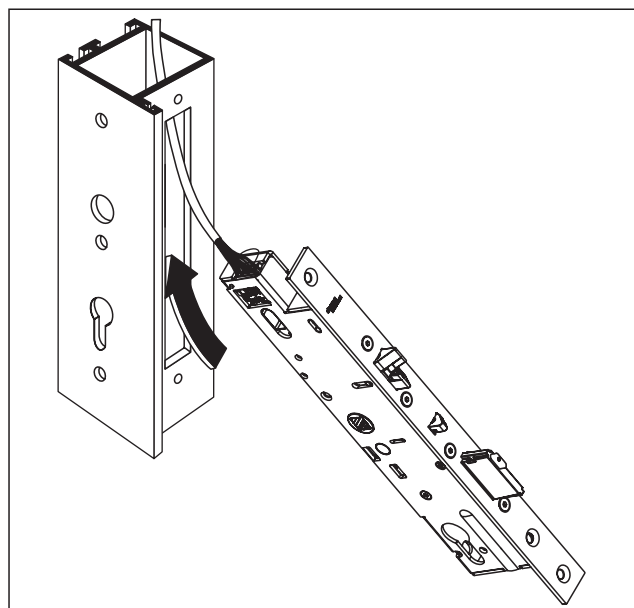

Fig. 17 Insert door lock
2. Insert the door lock into the door leaf recess (Fig. 17).